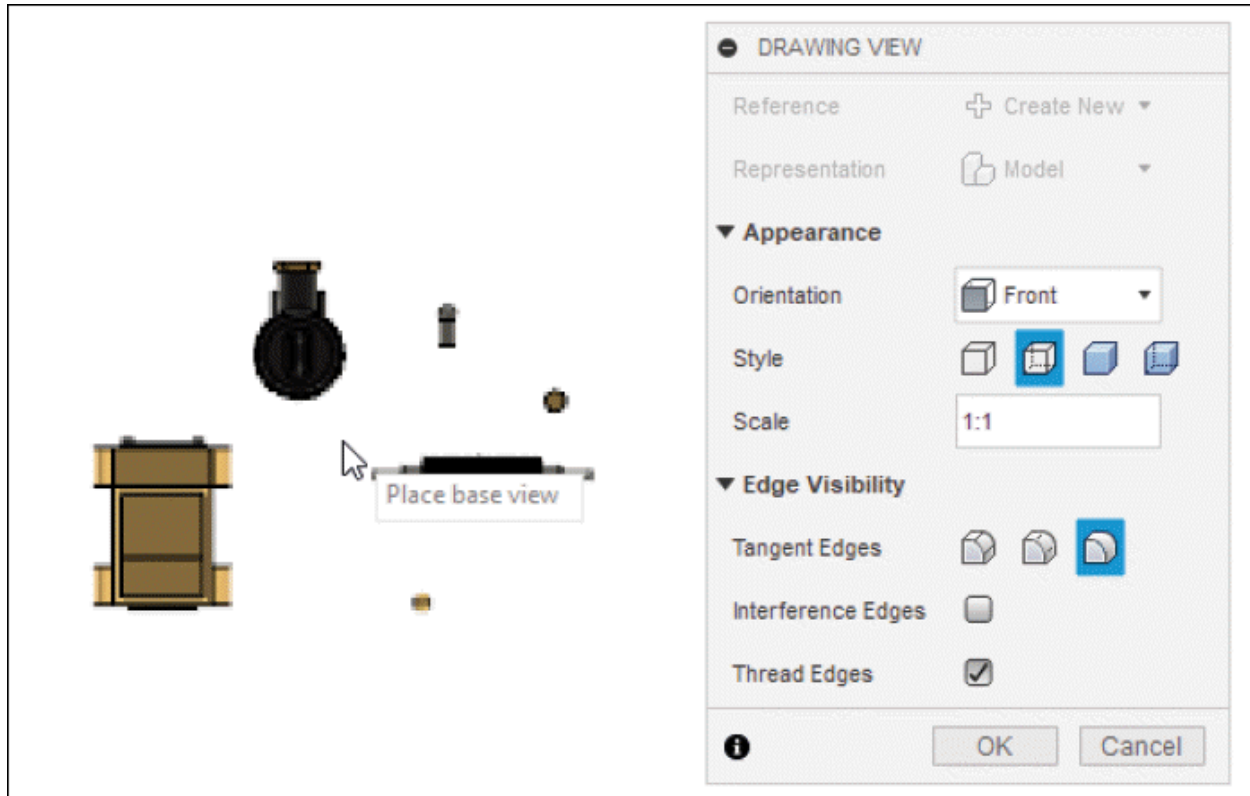

Figure-157. Placing base view
- Click at desired location to place the view; refer to Figure-157.